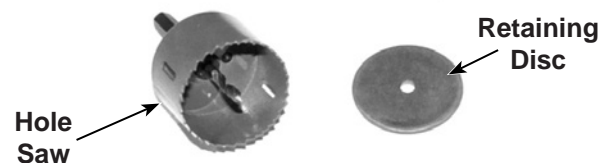

Figure 1
3. Use a hole saw to cut out the retaining disc in the center of the bushing. See Figure 1. **CAUTION:** To prevent equipment damage, do not use a torch to burn out the retaining disc.